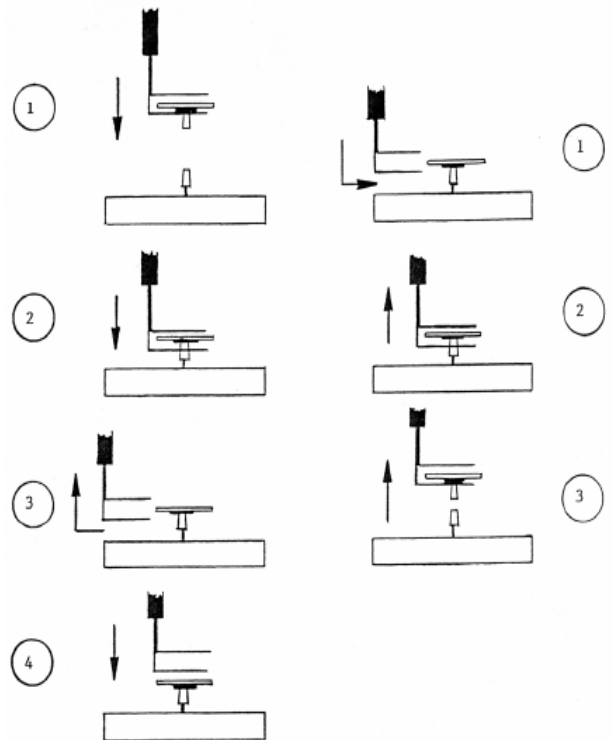

Figure 4 – Transducer unit (open position) Figure 5 – Cartridge insertion and removal
1. Refer to Figures 4 and 5 when following the instructions for filter exchange. It is recommended that the TEOM sensor unit filter box is stored in the sensor unit of the TEOM analyser so they are pre-conditioned before changing.